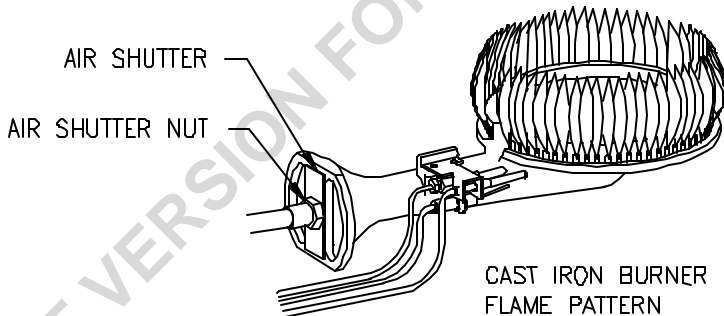

Figure 3
**Cast Iron Burner:** At the time of installation and at periodic intervals (not more than 6 months), a visual check of the main burner and pilot flames should be made to determine if they are burning properly. For ideal operation, the gas and air must be properly proportioned. The proper air-gas mixture is obtained by adjusting the air shutter on the mixer face of the main burner (See Figure 3). To adjust for proper burning, loosen the air shutter nut, rotate shutter to close the opening in the burner then slowly rotate the shutter until the yellow tips disappear and the flame becomes blue. Tighten the air shutter nut. Too much air will cause the flame to lift off the burner ports and create noisy operation. Too little air will result in soot formation. The main burner flame should light smoothly from the pilot.